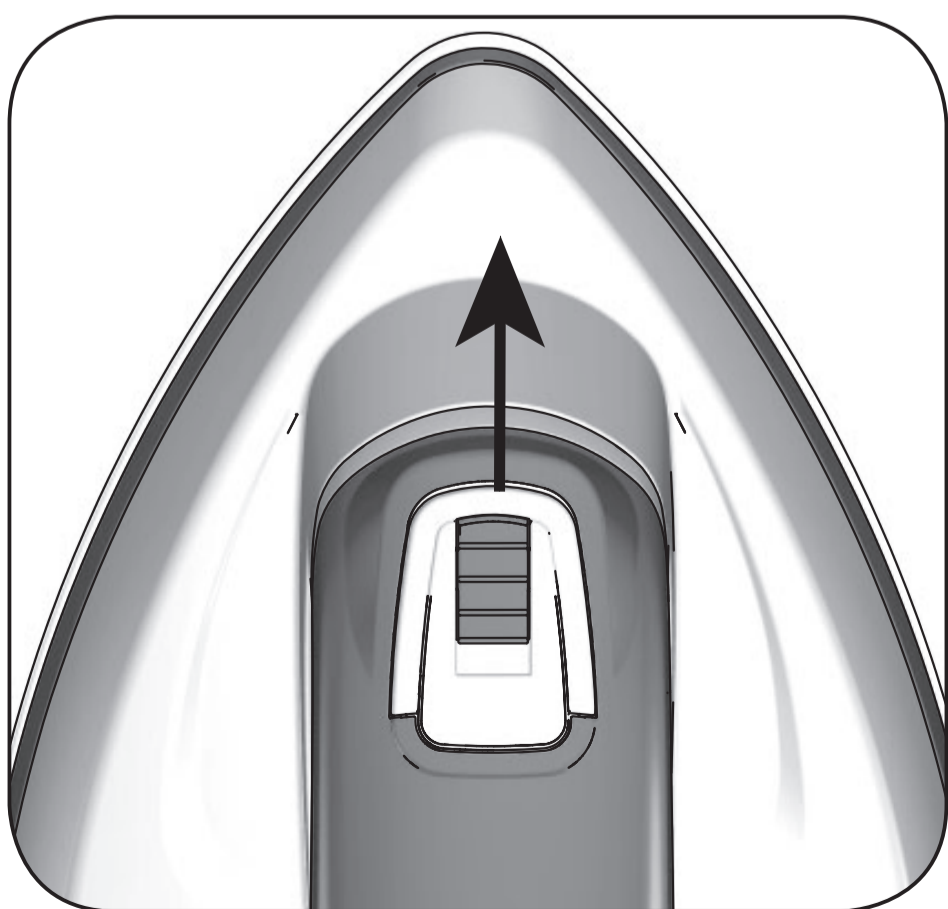

Fig. 10
2. Press the steam button (F) and keep it pressed several times until you see the steam. Steam does not come out immediately after pressing the steam button, because the water has to pass from the tank to the steam generator.
4. Place the fabric on an ironing board. Pass the appliance on the garment. Press the steam button (F) and keep it pressed.
5. To emit a continuous and constant jet of steam, press the steam button. Move the continuous steam lock slider upwards (Fig. 10).